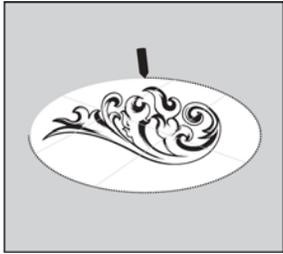

Figure 2: Mark area
2. Mark the area to receive the DecoMark® using a chalk line, chalk or crayon. *See Figure 2*. When tracing always handle the material with care. The DecoMark® material consists of a pattern of interconnected individual pieces of preformed thermoplastic material. Do not lift an entire pattern segment (usually 2 ft. x 3 ft.) by holding on to a small individual piece of the pattern only. The material should be handled on the plastic sheet it is packed with until it is close to its final position. *See Figure 3*. Once the marking has been traced, or the area chalked, remove the marking from the pavement.